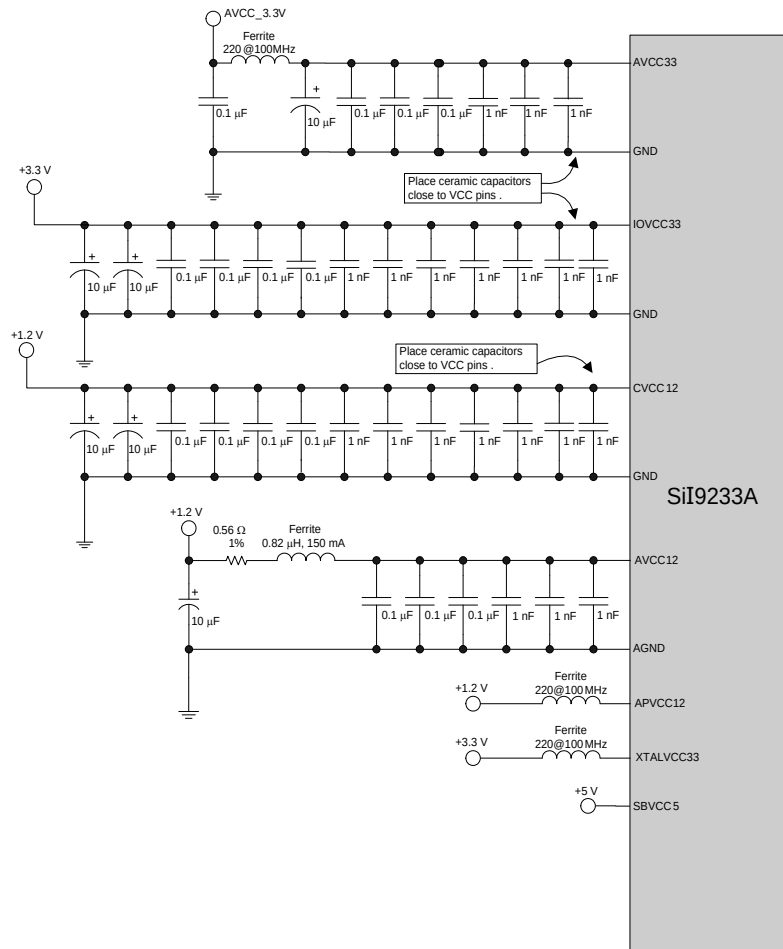

**Figure 9.2. Cut-out Reference Plane Dimensions**
2. Cut out all copper planes (ground and power) that are less than 45 mils underneath the TMDS traces near the receiver with dimensions as shown in Figure 9.2.